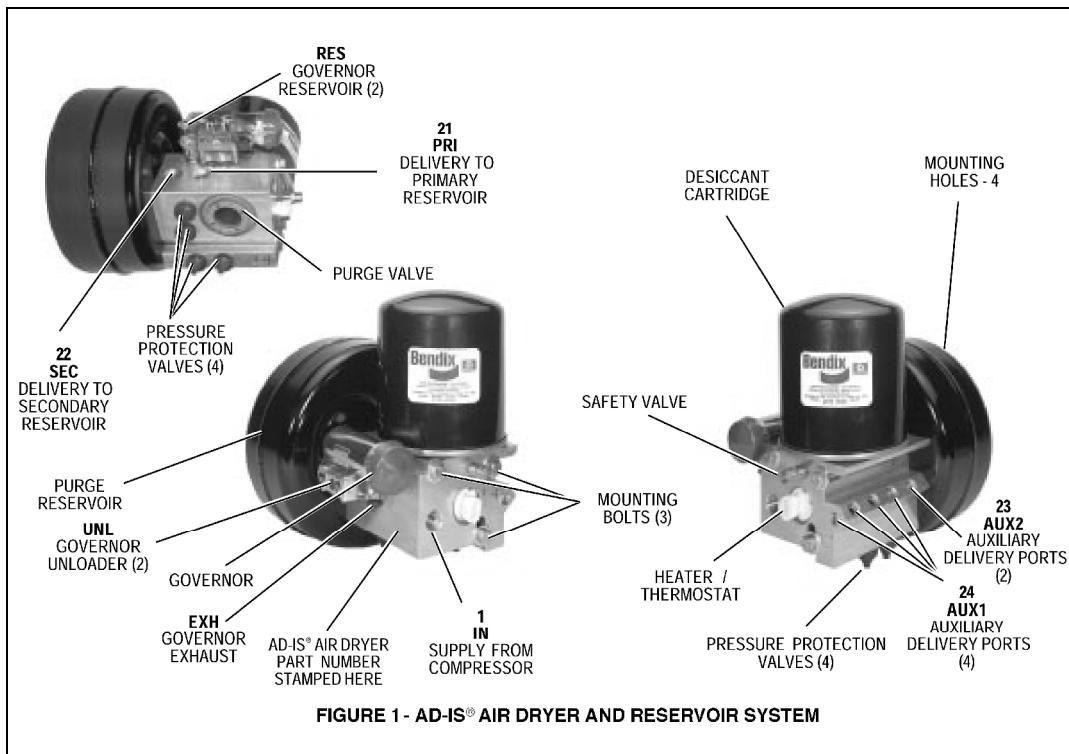

FIGURE 1 - AD-IS® AIR DRYER AND RESERVOIR SYSTEM
3. Check the AD-IS[®] air dryer and purge reservoir bolts for tightness. See Figure 1. Re-torque the three air dryer bolts to 360-420 inch pounds and the four purge reservoir bolts to 300-360 inch pounds.